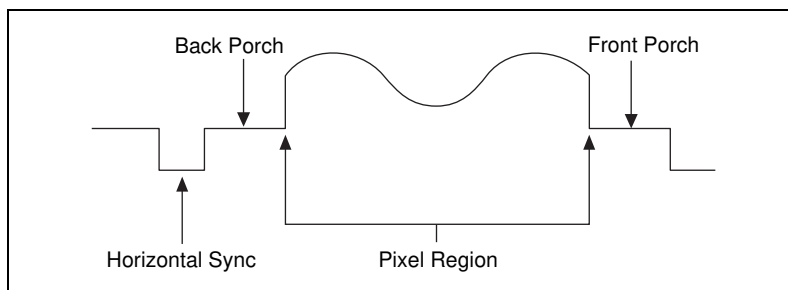

Figure 3-2. Video Line
- Video line—A video line consists of an HSYNC, back porch, active pixel region, and a front porch, as shown in Figure 3-2.